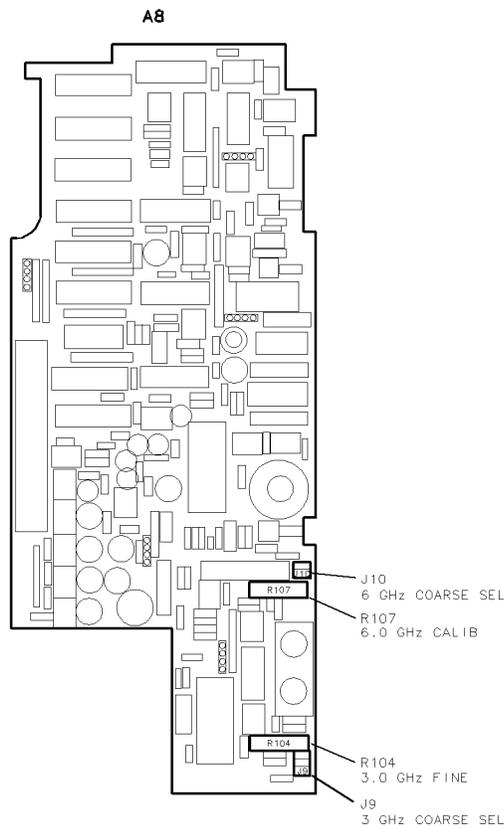
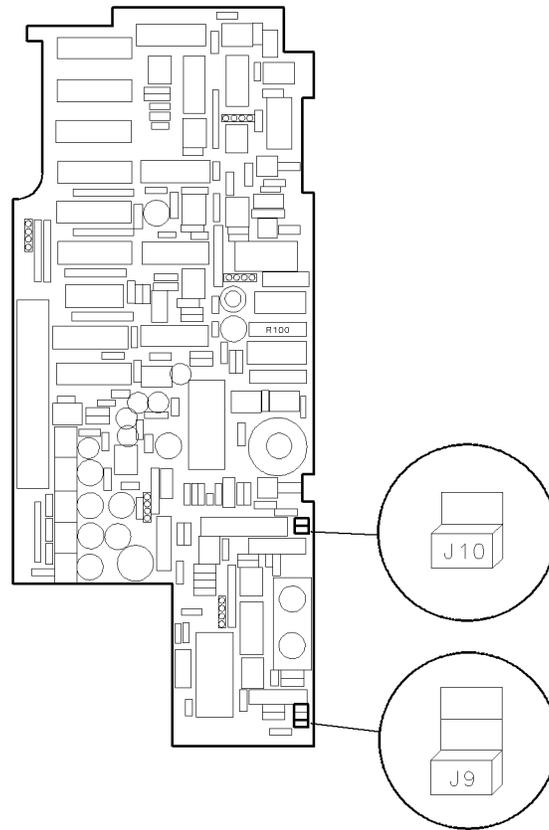

Figure 6-31. Locations for Adjustment 18. YTO Frequency Endpoints (1 of 2)
Figure 6-32. Locations for Adjustment 18. YTO Frequency Endpoints (2 of 2)
During this test, the user is instructed to position jumpers on connectors J9 and J10. These connectors each have six pins which allow three jumper positions. Place the jumpers between two vertically-adjacent pins, as illustrated in Figure 6-32. See Figure 6-31 for the location of the connectors on the assembly. (Jumpers can be ordered by HP part number 1258-0225.)
3. Remove the 3 GHz COARSE SEL and 6 GHz COARSE SEL jumpers. Center in their range, potentiometers A8 frequency control (R104) 3.0 GHz FINE and A8 frequency control (R107) 6.0 GHz CALIB, shown in Figure 6-31.